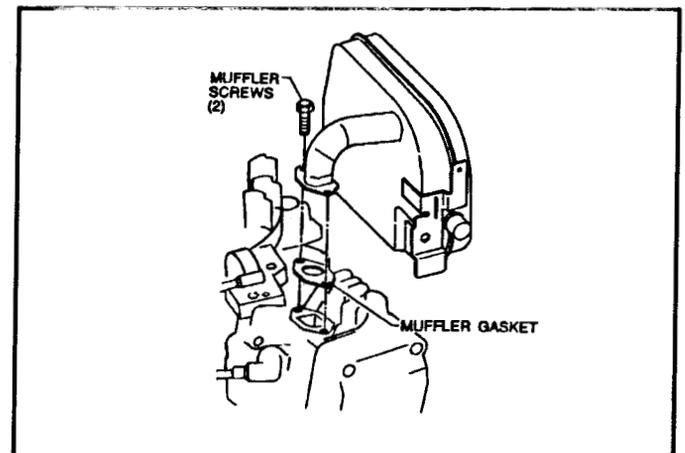

Figure 100
2. Install the muffler with two 3/8" hex, washer head cap screws. Torque the screws to 85 in lbs (9.5 Nm) See Figure 100.